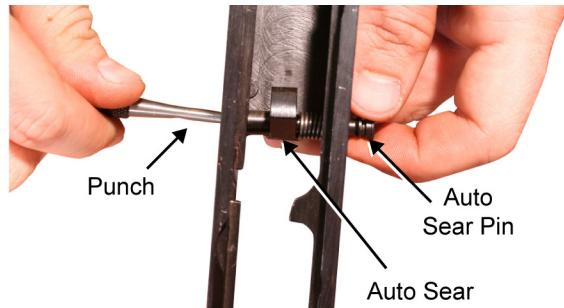

Figure 61. Installing the Auto Sear Retaining Pin.
c. Insert the auto sear retaining pin from the left side of the receiver, ensuring to thread the pin through the auto sear spring and the auto sear. Refer to Figure 61.